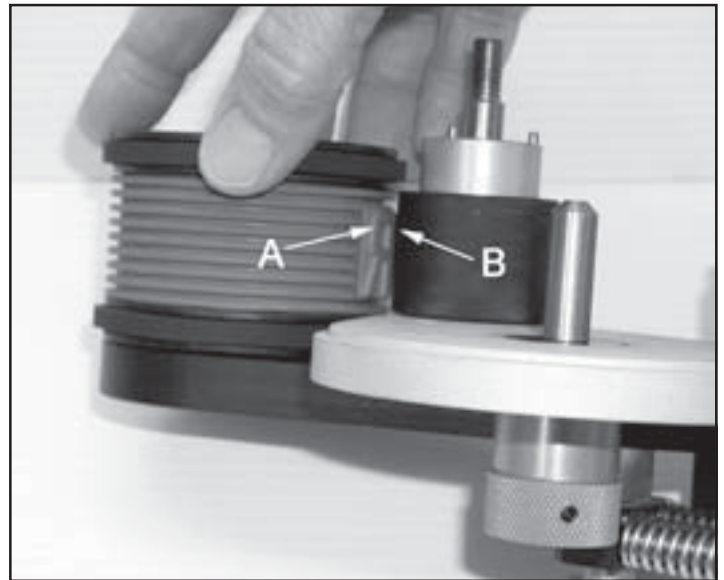

FIGURE 44
**3 - Rotate the print drum until one of the characters "A" is centered against the transfer roll "B" as shown in Figure 44. Gently slide the inking system towards the print drum, applying a *minimal* amount of force. While holding the inking system in position, lightly tighten the 2 Inking System Mounting Screws.**